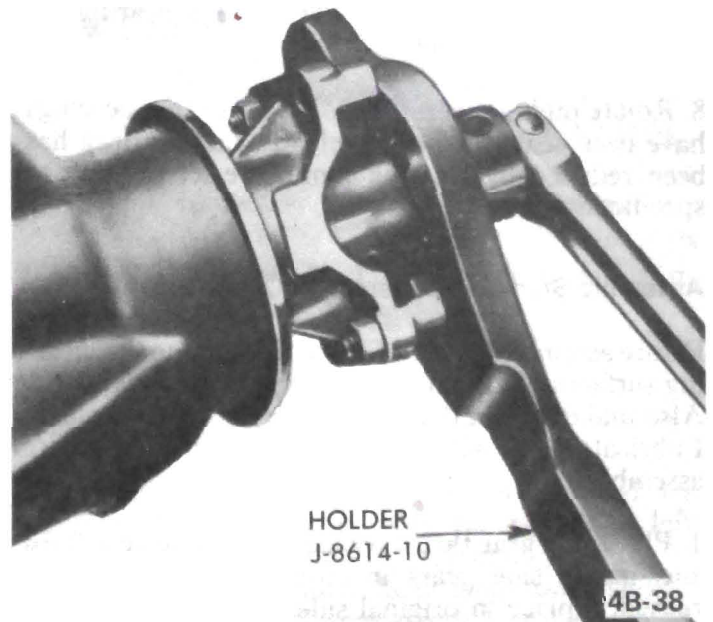

Figure 4B-38 - Installing Pinion Nut
6. Check preload by using a pound inch torque wrench as shown in Figure 4B-39.